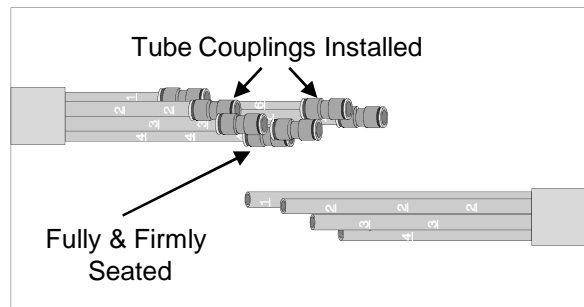

Figure 11
8.1 Choose either tube cable and install a Tube Coupling on each tube. Be sure each tube is pushed all the way into its coupling and fully and firmly seated. **See Fig. 11.**